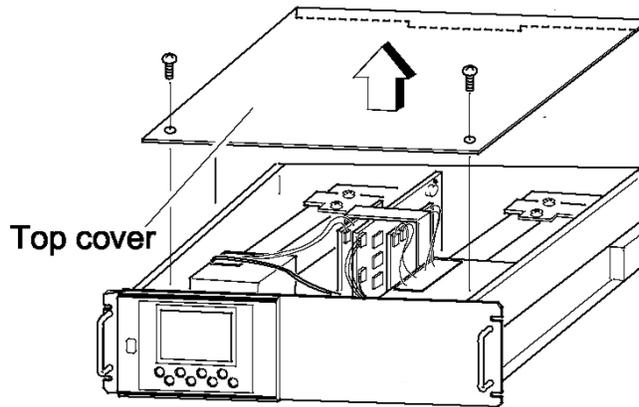

Figure 4-1: Top Cover Removal
2. Loosen the setscrew (2 pieces) from the top cover and remove it as shown in Figure 4-1.